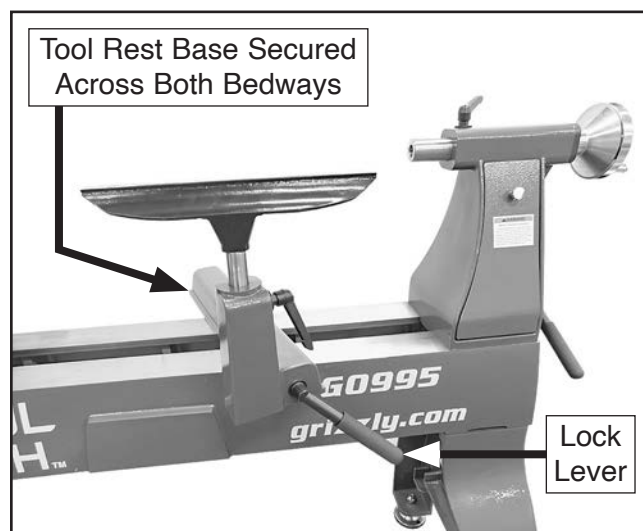

Figure 51. Tool rest base controls.
1. Loosen tool rest base lock lever and move tool rest base to desired position on lathe bed, as shown in **Figure 51**.